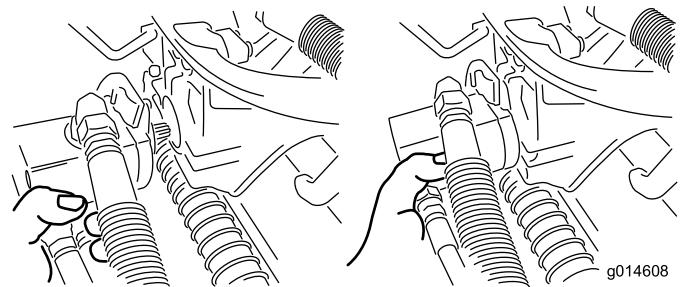

Figure 48
3. Move the motor to the storage location on the front of the suspension arm (Figure 48).